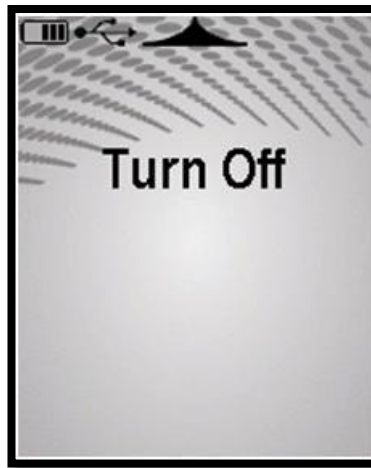

Figure 20 - Turn Off message
- Press the Test key and the device will shut down (refer Figure 20).